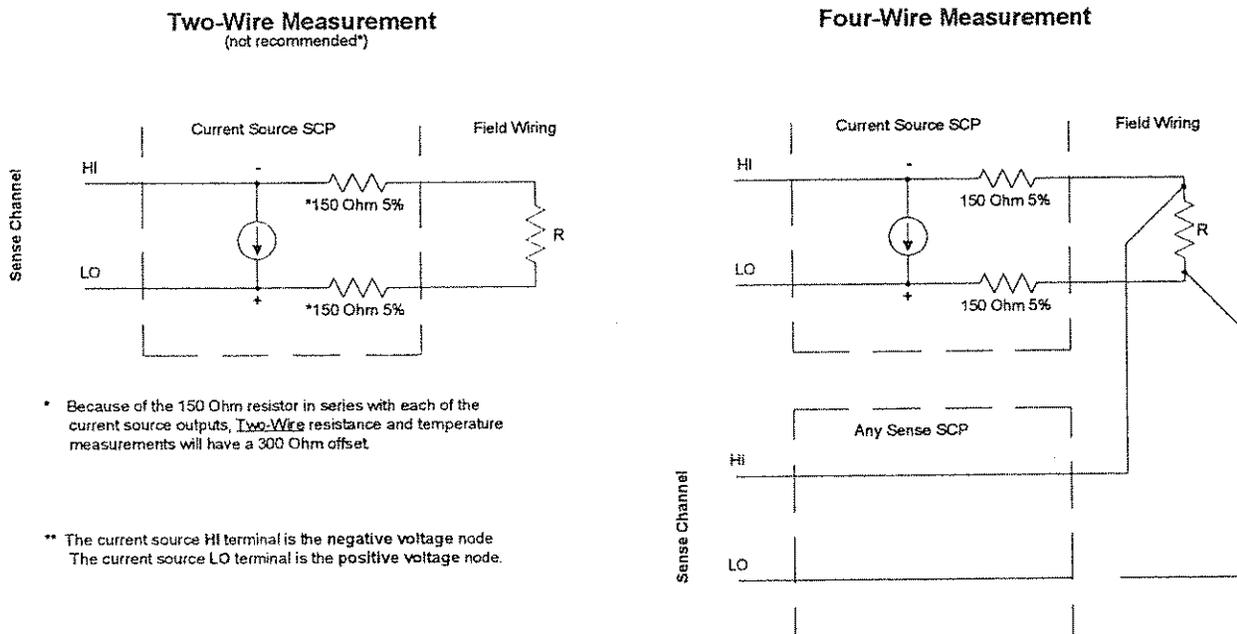

Figure 3-1 Resistance Measurement Sensing
Resistance measurements assume that there is at least one Current Source SCP installed (eight current sources per SCP). See Figure 3-1
- The *ch_list* parameter specifies which channel(s) to link to the resistance EU conversion. These channels will sense the voltage across the unknown resistance. Each can be a Current Source SCP channel (a two-wire resistance measurement) or a sense channel separate from the Current Source SCP channel (a four-wire resistance measurement). See figure 3-1 for diagrams of these measurement connections.
Temperature measurements using resistance type sensors involve all the same considerations as resistance measurements discussed in the previous section. See the discussion of Figure 3-1 in "Linking Resistance Measurements".